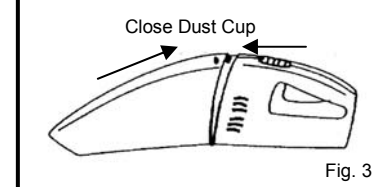

Fig. 3
2. Verify that the dust cup filter is inside, then re-attach the dust cup container to the hand vacuum. (Fig. 3)